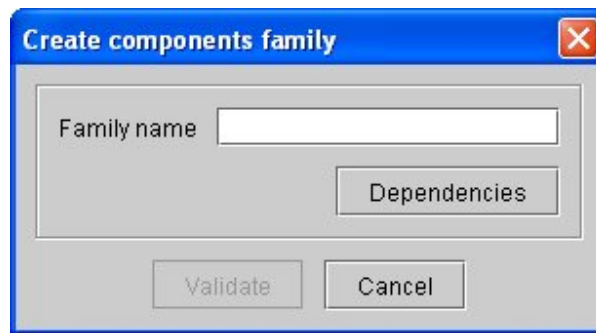

Figure 41 : Components - Create family
- The Create components family window is displayed (Figure 41):